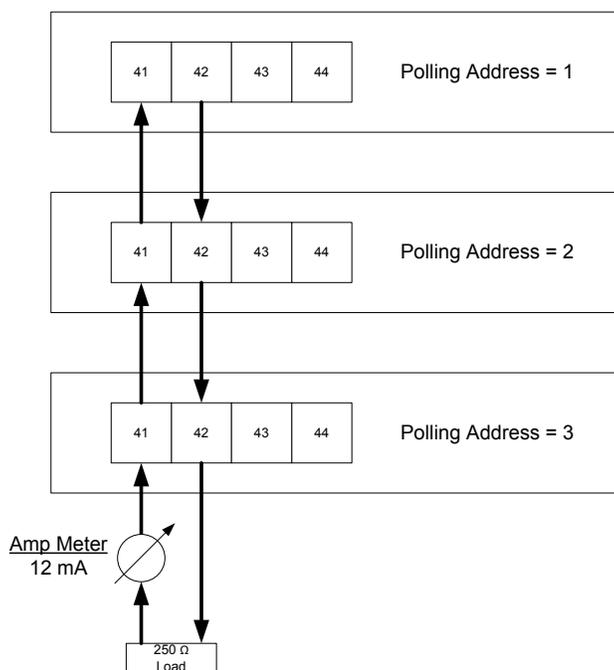

Figure 5: Wiring Meters in Parallel
2. Wire the meters in parallel as shown in Figure 5: